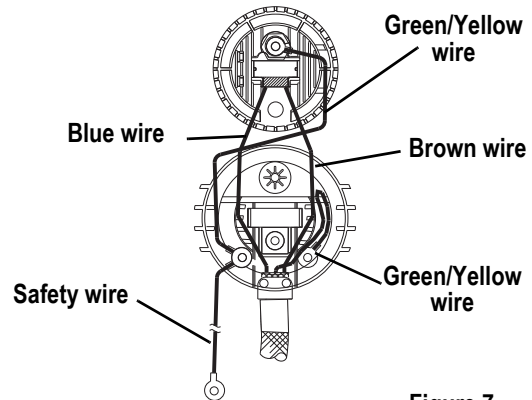

Figure 7
Step 12: Lay the leads in the bottom half of the cable clamp (located in the housing socket casting [1]), making sure that the cable insulation jacket extends slightly past the screw holes in the housing socket casting. Then, route the wires as shown in Figure 7.
Step 17: Before proceeding, check again to make sure the wires are still positioned as indicated in Figure 7. Adjust if necessary.